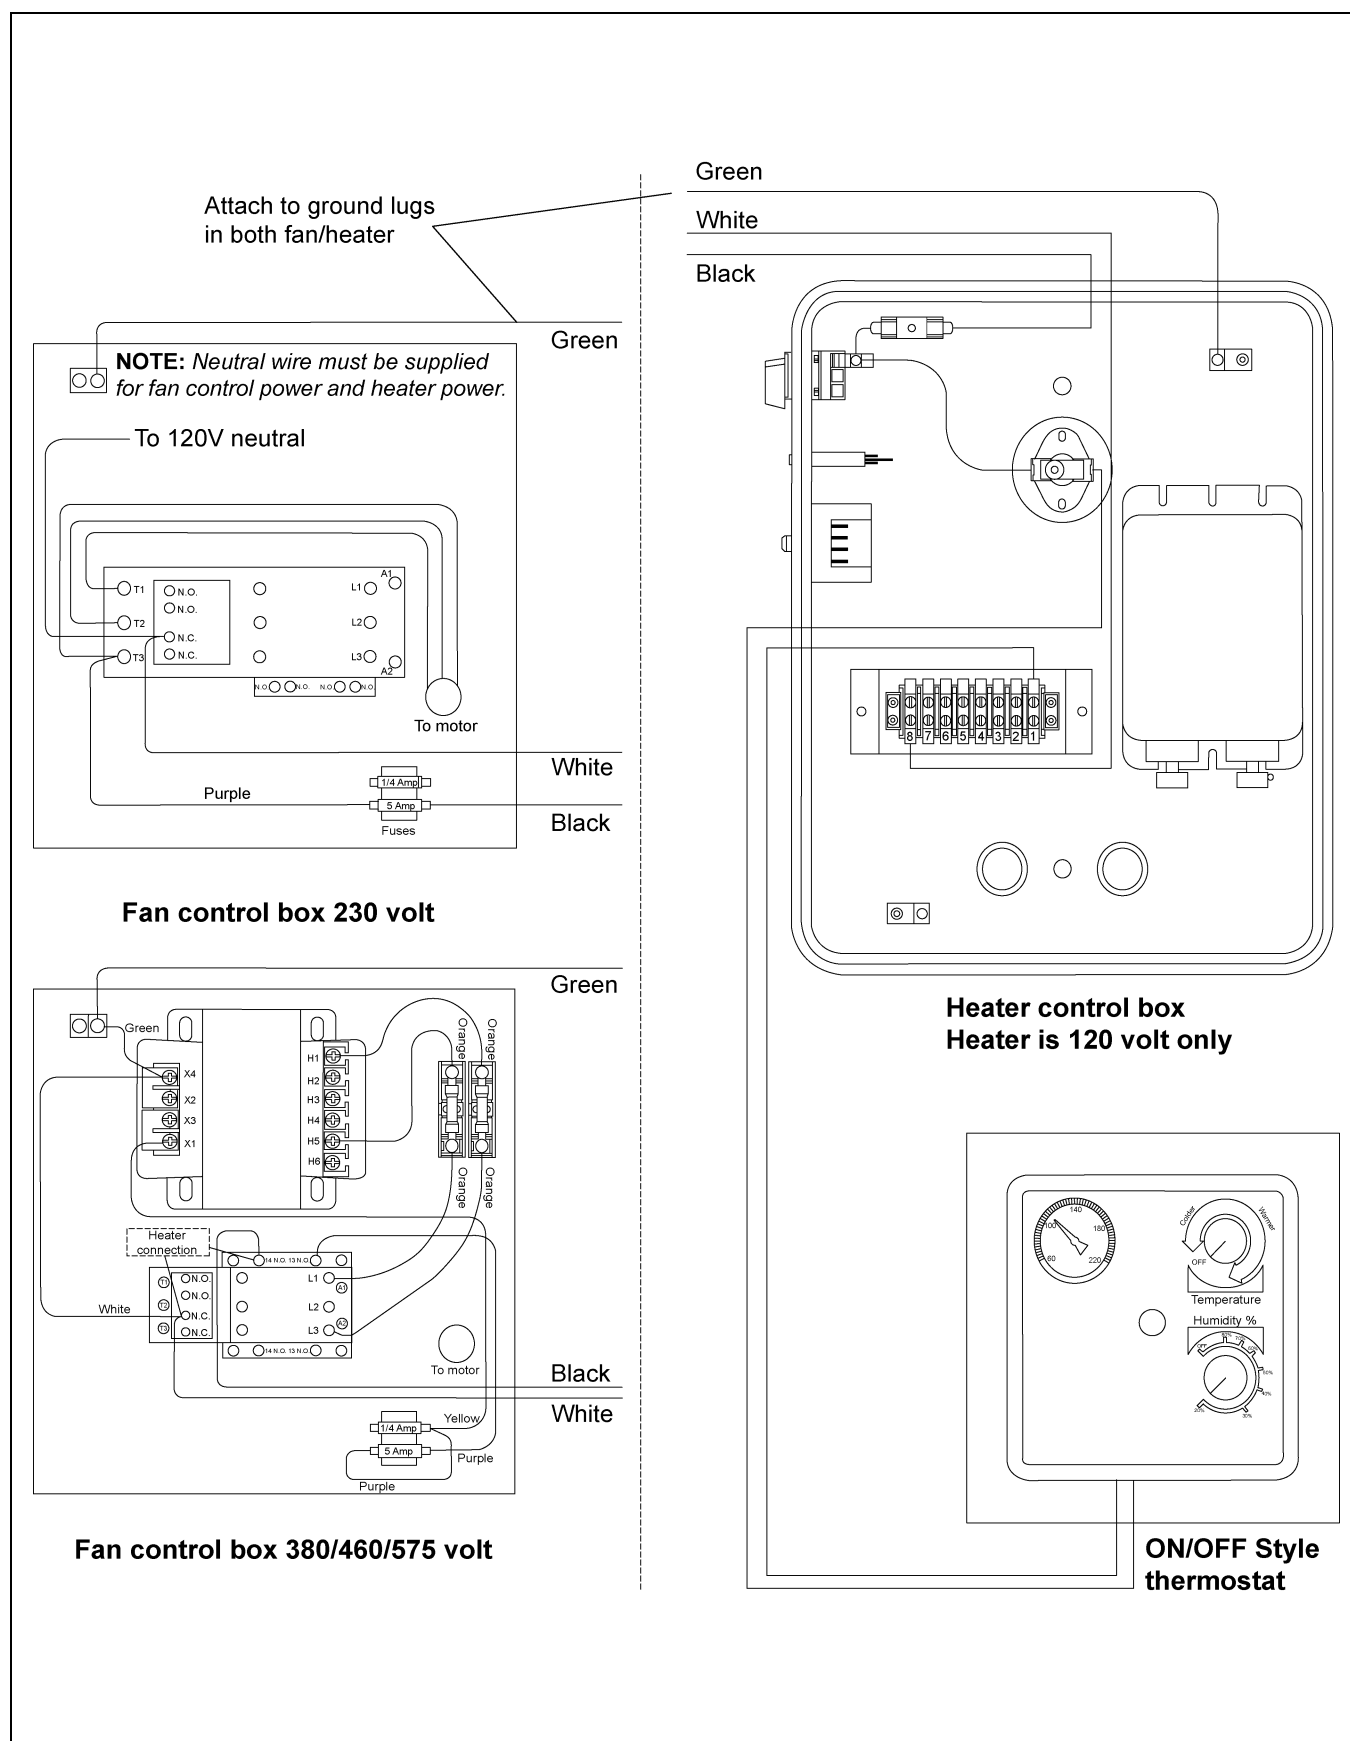

Figure 5B Heater Wiring Installation on a Fan Unit
2. Make field connections in fan box as shown in Figure 5B on Page 12.
3. Connect deluxe thermostat control (optional) as shown in Figure 5B on Page 12.
3. Connect deluxe thermostat control as shown in Figure 5B on Page 12.